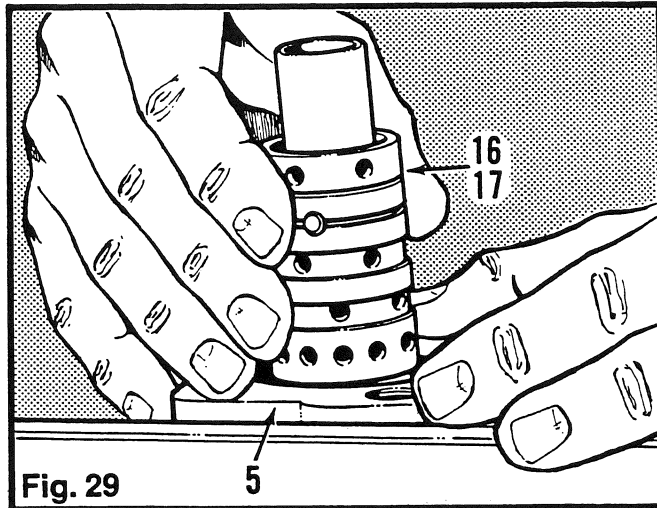

Fig. 29
7. Apply lubricant to the control assembly (16,17). Rotate the control assembly as you install it in the control housing (5). (Fig. 29)